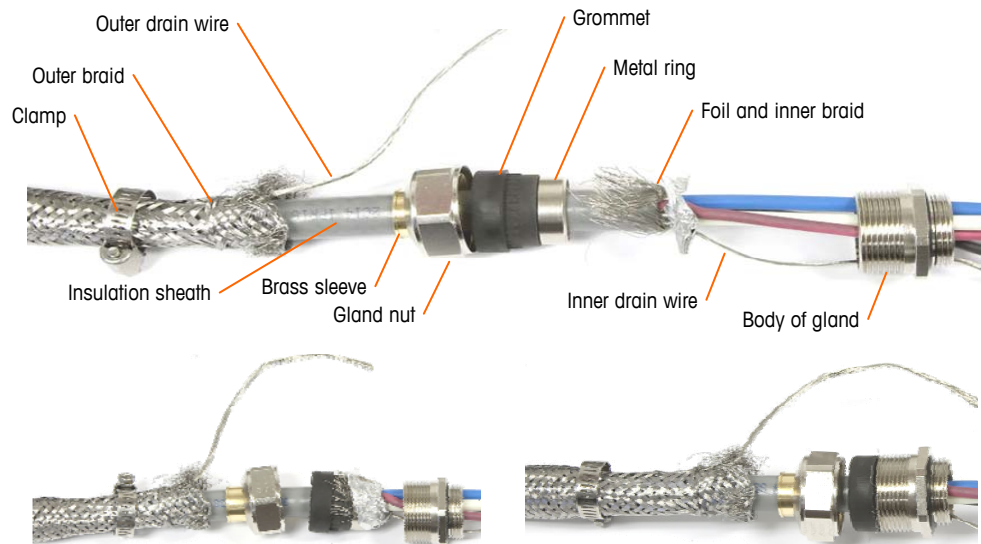

Figure 2-43: PDX Home Run Cable and Gland Assembly
- a. Install the cable gland assembly, metal clamp and the brass sleeve onto the home run cable while sliding back the outer braid shield (Figure 2-43). The inner drain wire should go into the enclosure through the cable gland, while the outer drain wire remains on the outside.
- b. Fold and spread out the inner braid shield and foil over the metal ring before pressing the grommet into the body of the cable gland, as shown in Figure 2-43. Tighten the cable gland’s nut with the brass sleeve onto the body of the gland.